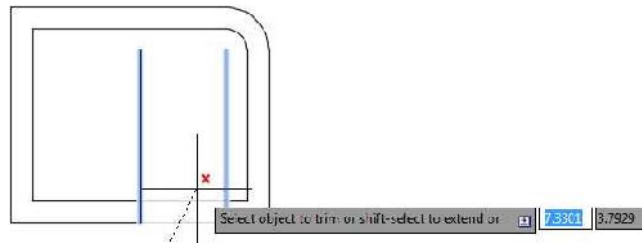

FIGURE 2.33: Lines selected to be trimmed
4. Your command line now reads Specify first fence point:. Using the Fence method, you will draw an imaginary line through the objects you want to trim. Use your cursor to draw a line that crosses the two horizontal lines across the opening, somewhere between the cutting-edge lines (see Figure 2.33).